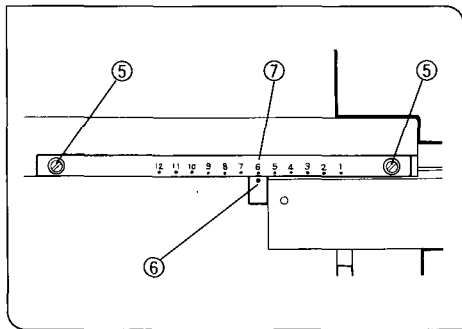

Fig. 61
2. Loosen the X-axis scale clamping knobs ⑤ and slide the scale to align the X-index ● ⑥ with the scale index ● ⑦. Then tighten the X-axis scale clamping knobs. (Fig. 61)